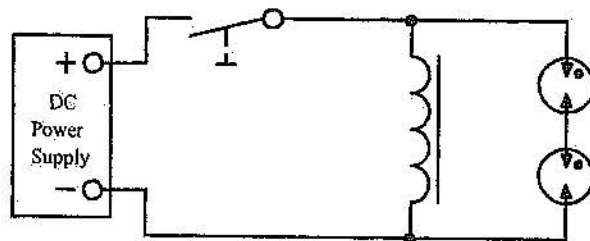

Figure 8
11. Connect two lamps in series across the coil as shown in figure 8.